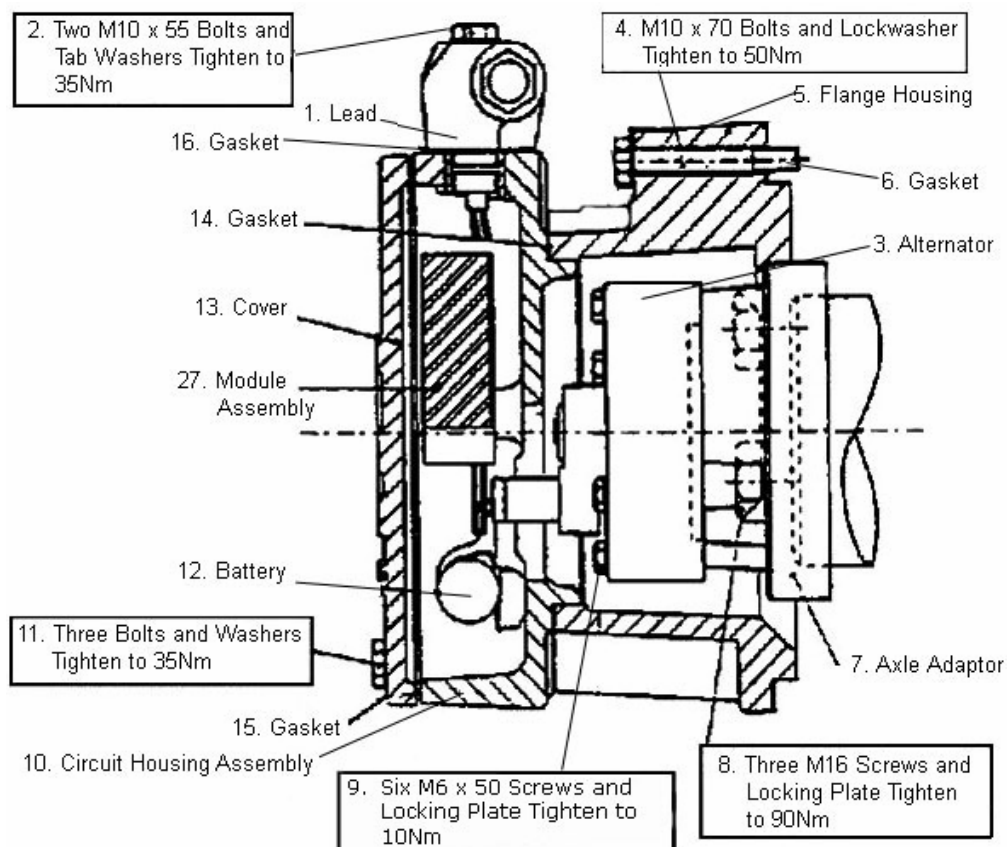

Figure 32.1: Girling WSP Sectioned View
32. Fit Girling WSP as follows (see Section 4.5 and Figures 32.1 and 32.2):